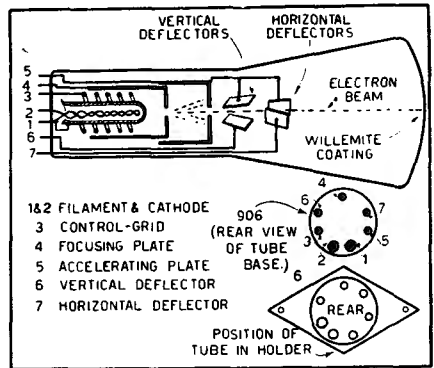

Fig. 54.
The seven elements are as follows (refer to Fig. 54): (1) filament; (2) cathode; (3) control-grid; (4) focusing plate; (5) accelerator plate; (6) vertical deflector; (7) horizontal deflector. A back view of the tube base shows where each element terminates. Numbers 1 and 2 connect to the filament which requires 2½ V. at 1.75 A. The cathode is internally connected to the filament prong No. 1.